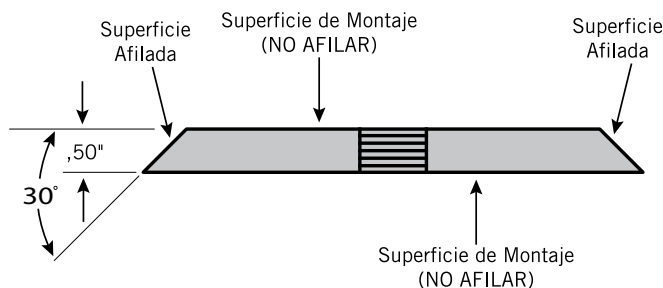
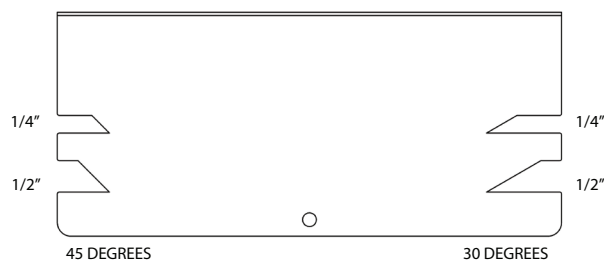

Figure 5.2, Chipper Blade Surfaces
Figure 5.3, Anvil Spacing Gauge
2. Regrind the angled edge of the chopping blades to 30 degrees (Figure 5.2). Use the blade angles on the anvil spacing gauge when sharpening the blades to achieve the proper angle (see Figure 5.3).